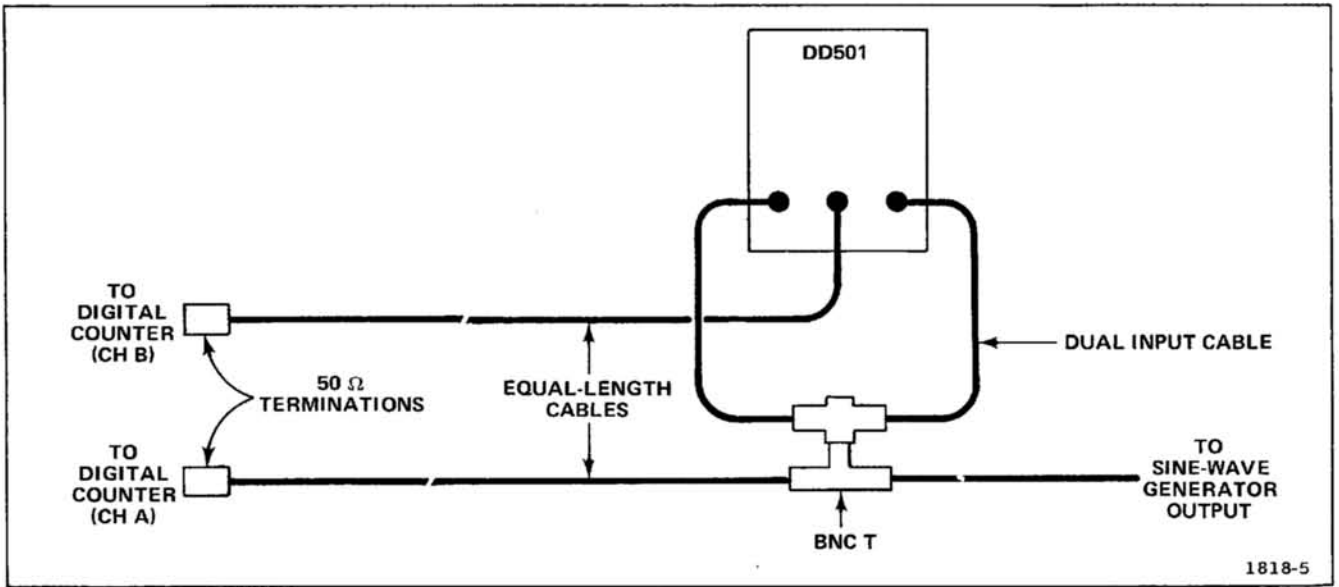

Fig. 5-3. Delay count accuracy test setup.
b. Connect equipment as shown in Fig. 5-3.